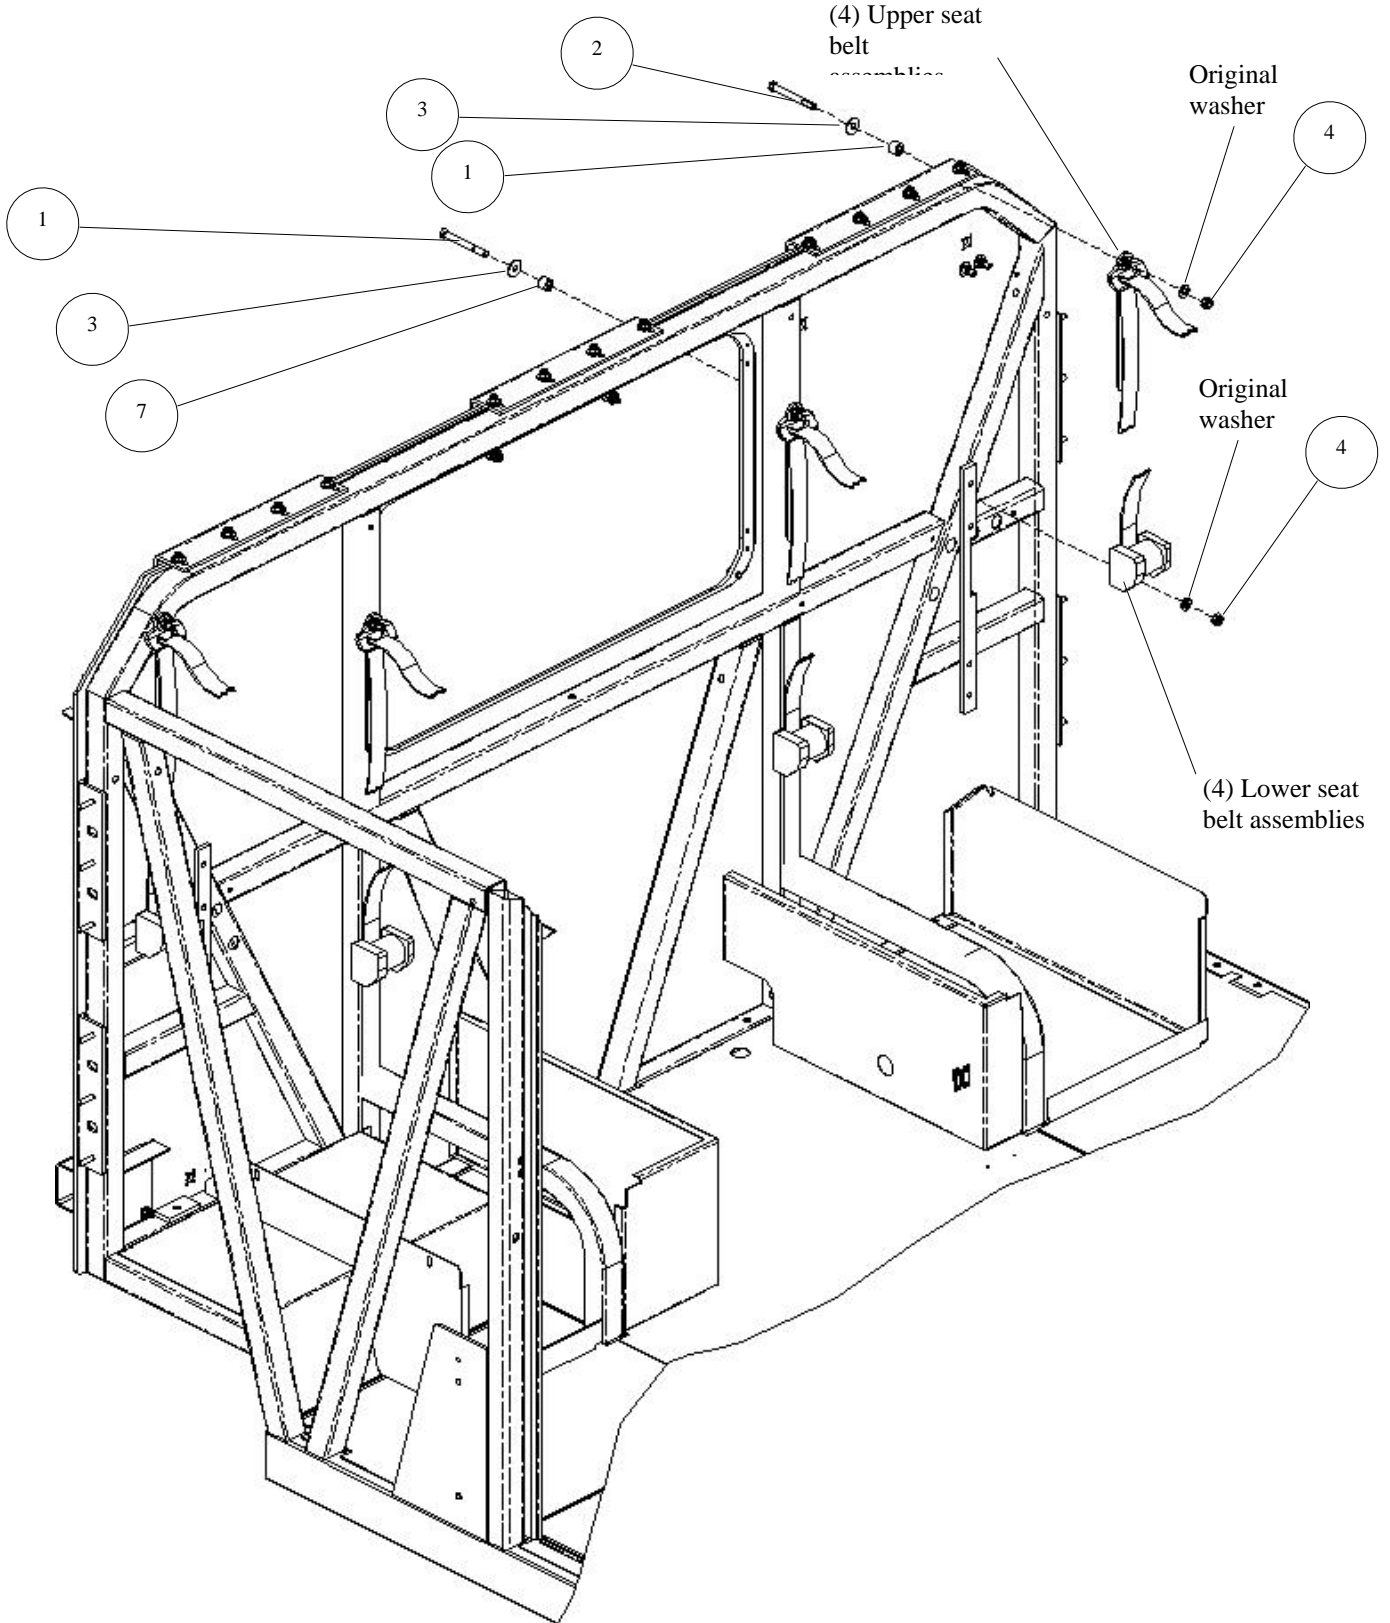

Figure 3-14. Rear Seat Belt Assembly Installation.
3. Install seat belt assemblies as follows (see Figure 3-14):
- a. Re-install four upper seat belt assemblies and lower seat belt retractors through rear armor and cab using one bolt (2), one flat washer (3), one spacer (1), and one locknut (4) for each assembly. (Use original flat washers on the inside of vehicle.). Torque to 7 lb-ft.